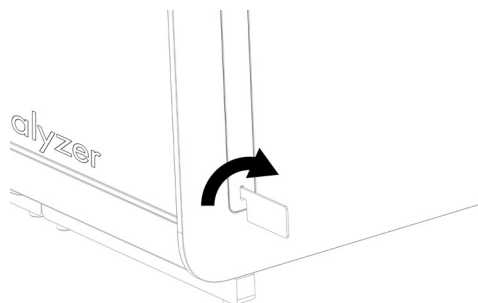

Figure 13. Removing protective covers.
- 1e. Remove the protective covers from the side of the Analytical Module, which is where the additional Analytical Module will be attached (Figure 13).